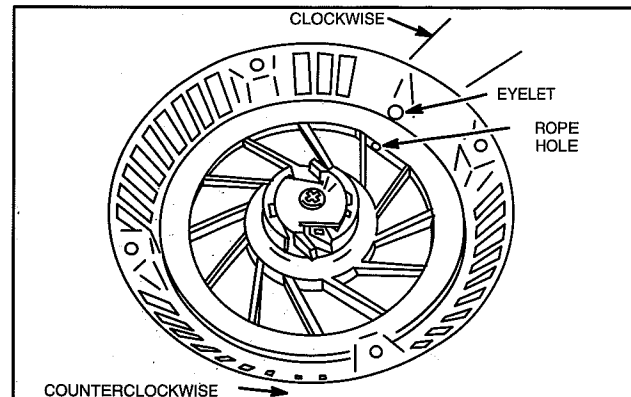

Fig. 5 – Winding Spring
1. Rotate pulley COUNTERCLOCKWISE SIX (6) complete turns.
3. Hold pulley in this position, Fig. 5.